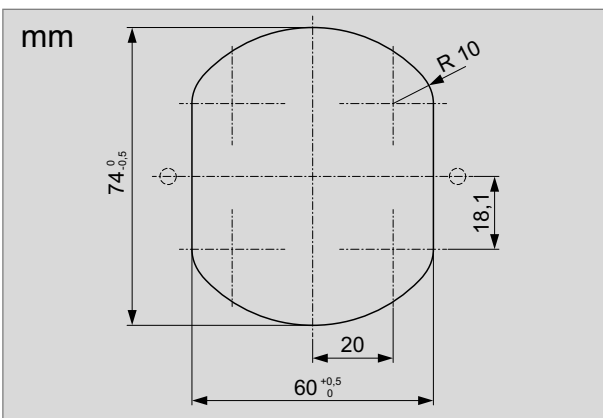

Fig. 12
Install the control and operator panel for the CT 4110 toilet in an easily accessible position on the wall. First cut the aperture in the wall (Fig. 12, 13). Use **true-to-scale template (1)** to make the wall aperture (see Item 4.9).